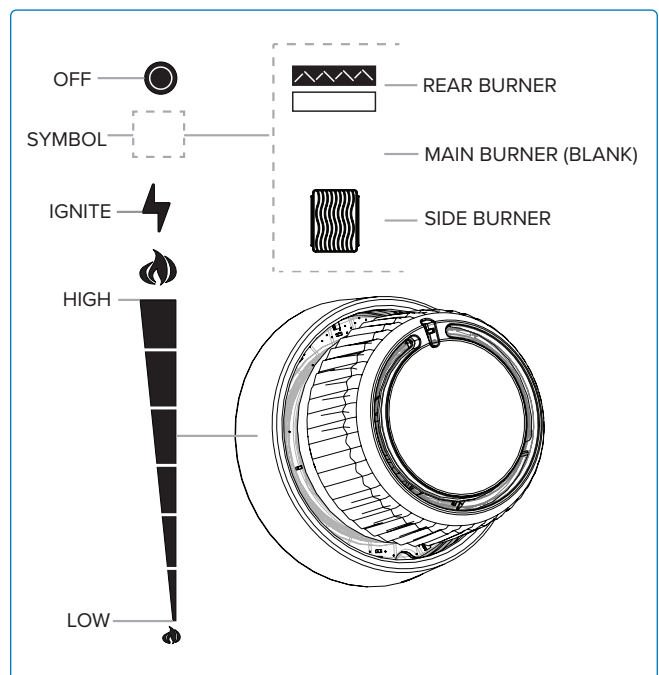

Fig. 7
2. Push and slowly turn any main burner knob counter clockwise to HIGH position until pilot lights. Continue to push down on the control knob until the burner lights and then release (**Fig. 6A & Fig. 7**).
3. Push and slowly turn rear burner knob counter clockwise to HIGH position (**Fig. 6D & Fig. 7**).
4. If the burner will not ignite within 5 seconds – turn burner control knob clockwise to the OFF position. Wait 5 minutes. Repeat step 2 and 3. **(Fig. 6E & Fig. 7).**